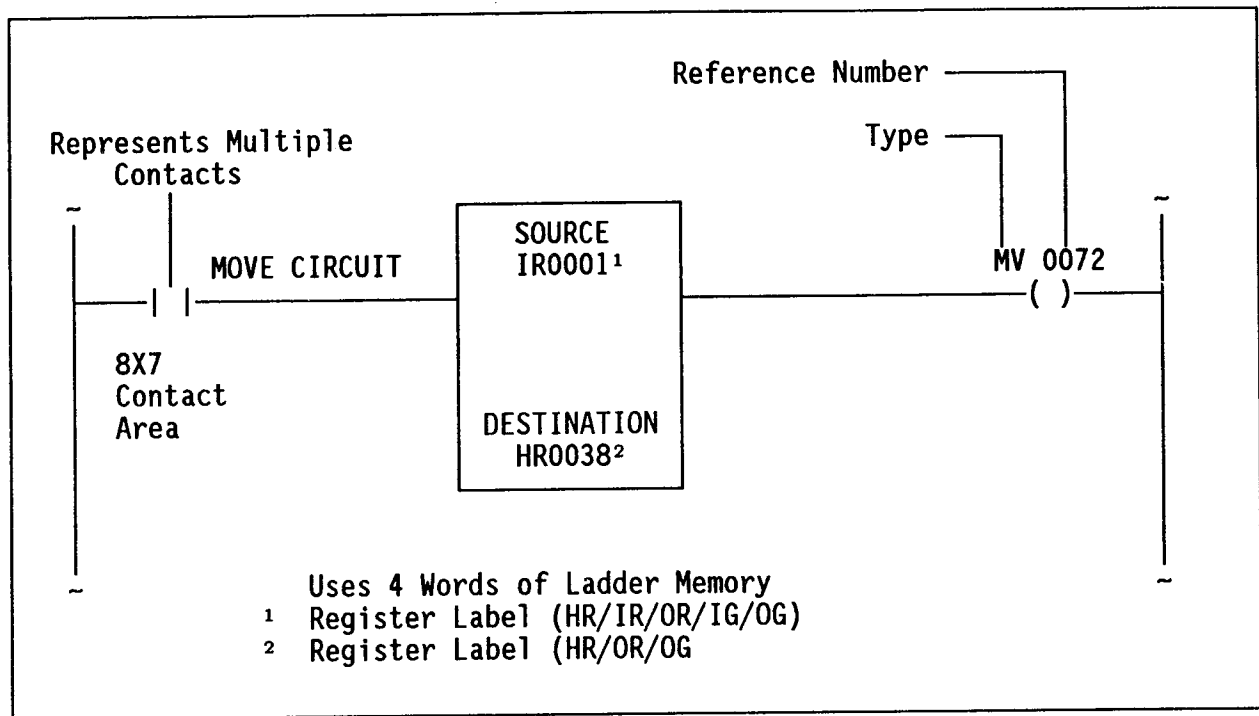

Figure 1. Move (MV)
The Move (MV) function transfers data from the source to the destination. MV function symbology is shown in Figure 1.